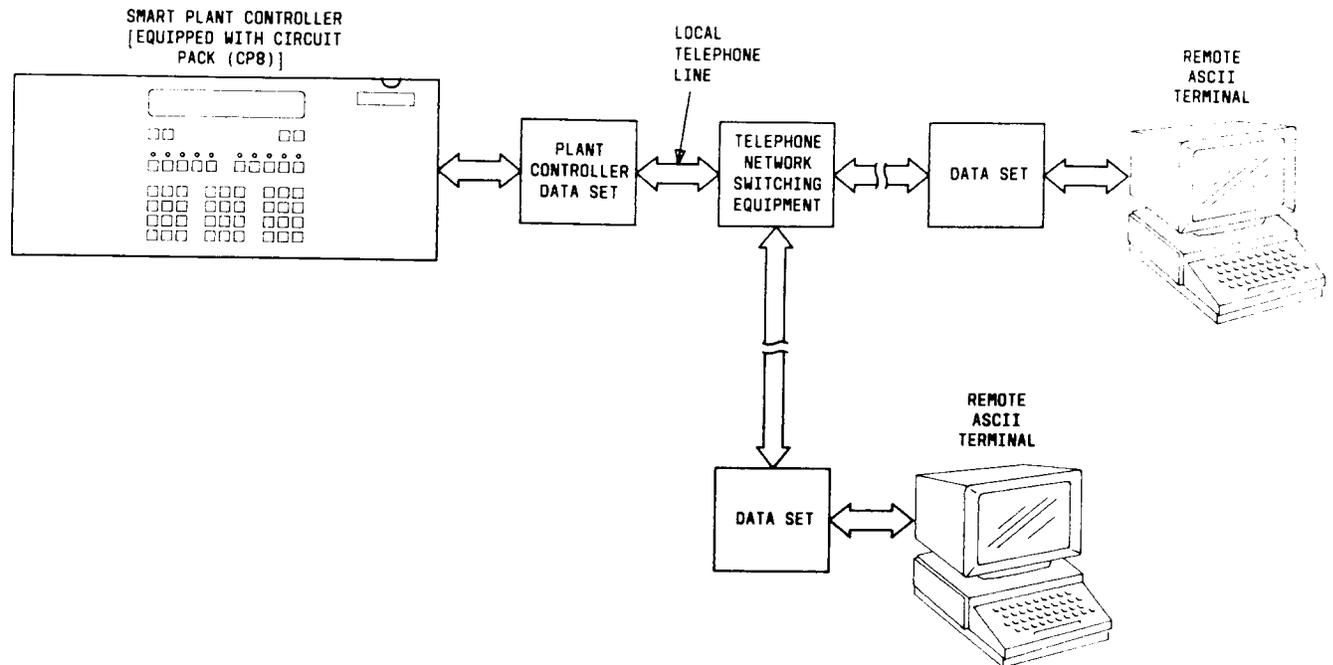

Fig. 6—Smart Plant Remote Interface
3.18 Remote Interface Option: The MC-80013-B1 remote interface (Option T) circuit pack (CP8) and data set (modem) (Option M) provides access to power plant data, status, major alarms, minor alarms, and diagnostic messages from remote terminals anywhere in the world (Fig. 6).